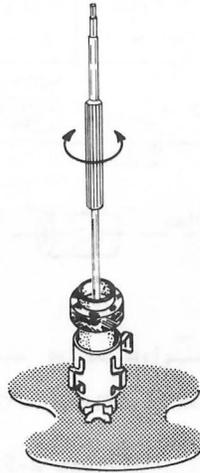

Figure 3-56
- () Using the plastic alignment tool, turn the slug inside the coil slowly clockwise (as in Figure 3-56) and note the change in waveform.